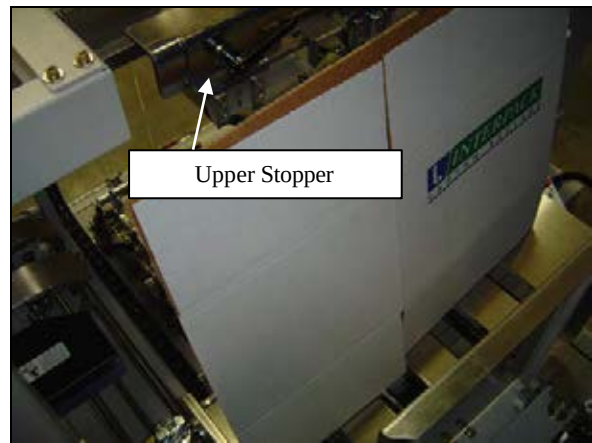

Figure 5.6
5. Place a case—without being folded—vertically in the proper orientation (RH facing Vacuum Cups) in the powered hopper and adjust the hopper table to the upper stopper mechanism or fingers approximately $\frac{1}{4}$ " of the case separating plate on the case (Figure 5.6, 5.7, 5.8, 5.12).